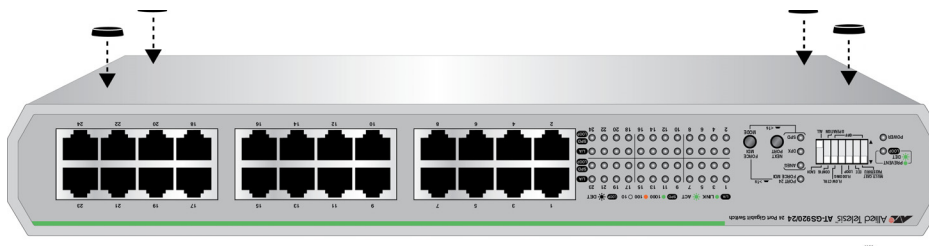

Figure 8. Installation of Rubber Feet
3. Install the four rubber feet with the four screws provided on the bottom of the switch chassis. See Figure 8.